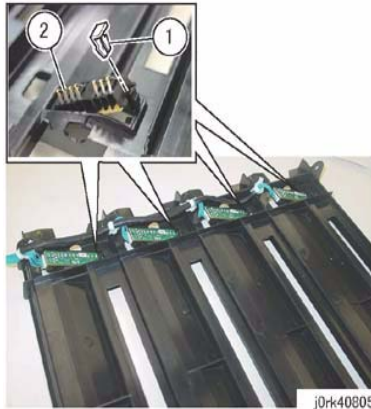

Figure 4 CRU Reader Removal
7. Remove the CRU Reader. (Figure 4)